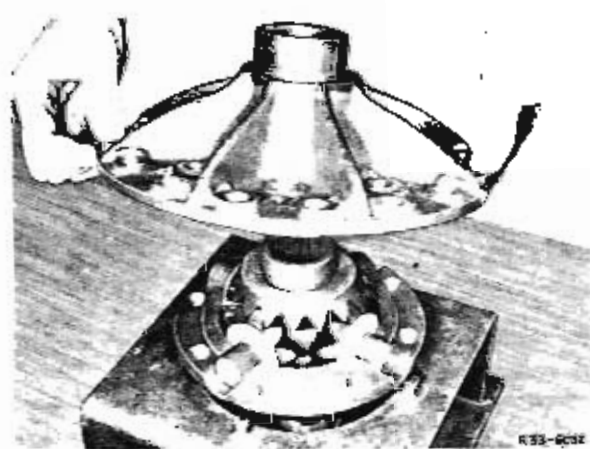

Fig. 4
- 4 Place drive pinion with bronze thrust washer onto differential pinions and mount differential housing (observe mark) (Fig. 4).